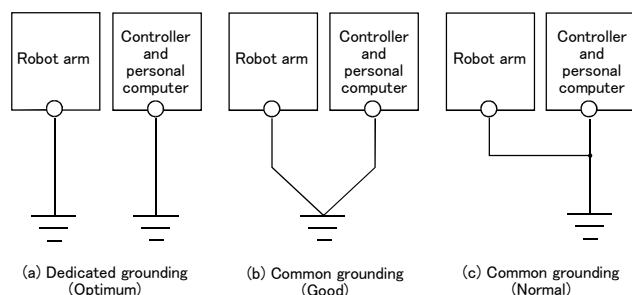

Fig.2-6 : Grounding methods
- 1) There are three grounding methods as shown in Fig. 2-6 (c), but the dedicated grounding (Fig. 2-6 (a)) should be used for the robot arm and controller when possible. (Refer to the separate "Controller Setup, Basic Operation and Maintenance" for details on the controller grounding.)